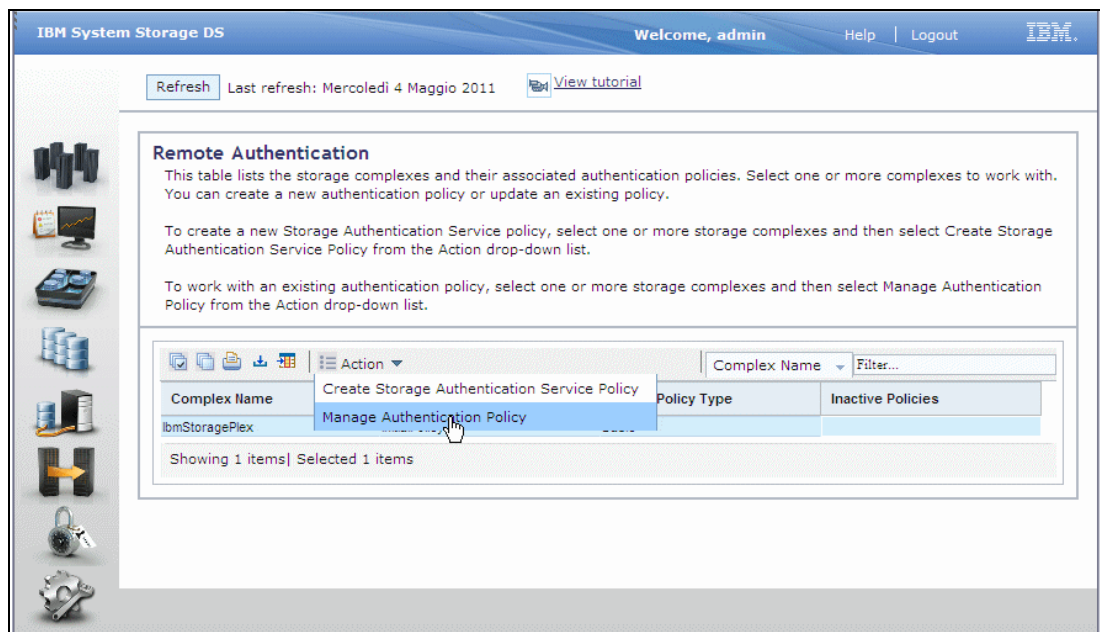

Figure 9-11 Selecting a storage complex
- You are presented with a list of the storage complexes and their active security policies. Select the complex that you want to modify. You can choose to either create a new security policy or manage one of the existing policies. Do this by selecting **Create Storage Authentication Service Policy** or **Manage Authentication Policy** from the **Select** menu as shown in Figure 9-11.